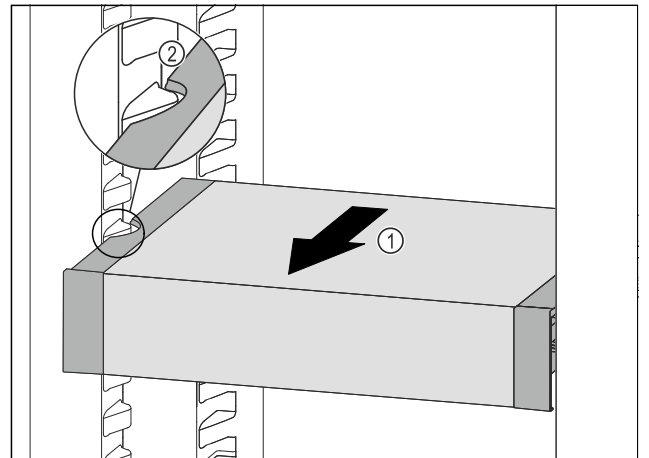

Fig. 101
- ▶ Pull VarioSafe forward Fig. 101 (1) until the recesses in the side of the VarioSafe are at the level of the support rib in the refrigerator compartment. Fig. 101 (2)